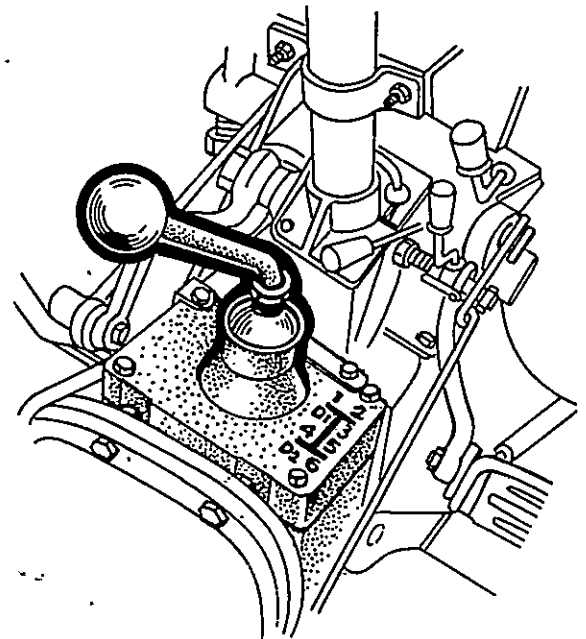
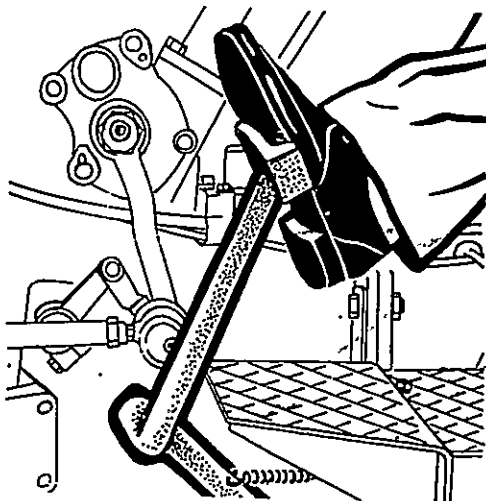

Fig. 3-9
Fig. 3-13 Disengaging the main clutch
f. Put the shift lever of transmission, the control lever 1 of the hydraulic pump, the control lever of the P. T. O. shaft 2 and the control lever of the sliding gear of the transfer box 3 at the neutral position. (see Fig. 3-9, Fig. 3-10)
- 1) With the engine running at a low speed, depress the clutch pedal (see Fig. 3-13) and then shift the gear shift lever smoothly to the desired gear. (see Fig. 3-9)
Depress the clutch pedal to disengage the clutch before shifting gears (see Fig. 3-13). When the tractor stops, set the gear shift at the position of desired gear. The position of the shift lever are shown in Fig. 3-9.
- 2) Depress the clutch pedal and then depress the brake pedals as well. After the tractor stops, put the gear shift lever in the neutral position (see Fig. 3-9)